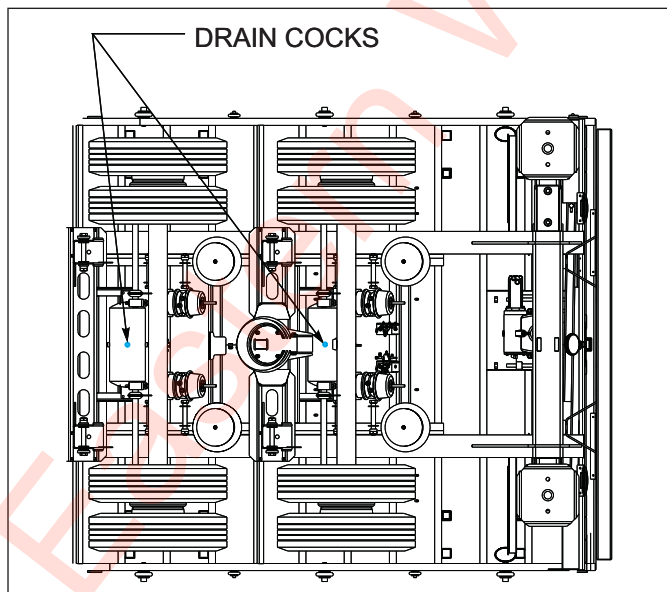

Figure 4-13: Drain Cock Locations
4. Drain air reservoir daily. A drain cock on the bottom of each air reservoir vents the tank to drain collected water and oil. If held open, air pressure in the tanks is relieved, causing the emergency or parking brakes to be applied (*See Figure 4-13.*)